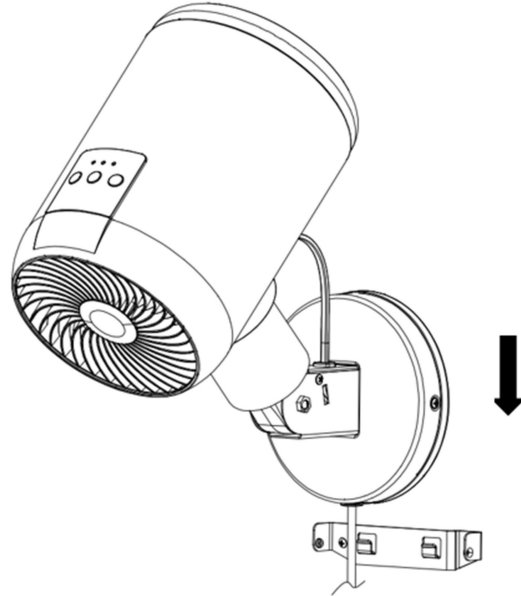

Fig. 6
- Hang the fan assembly onto the mounting bracket. (Fig.6)